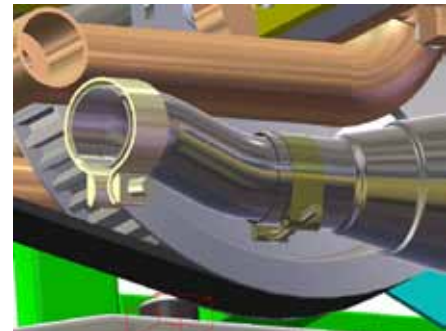
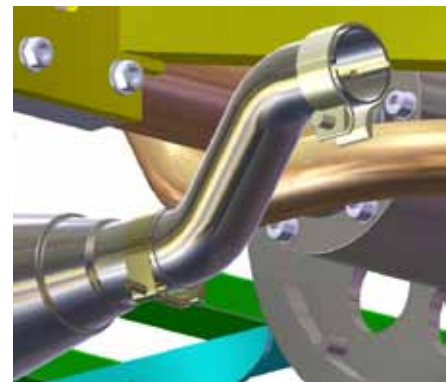

Figure 50
Figure 51
- d. Install left (Figure 50) and right (Figure 51) exhaust extension tubes between mufflers and exhaust pipes using the OEM and supplied clamps as shown.